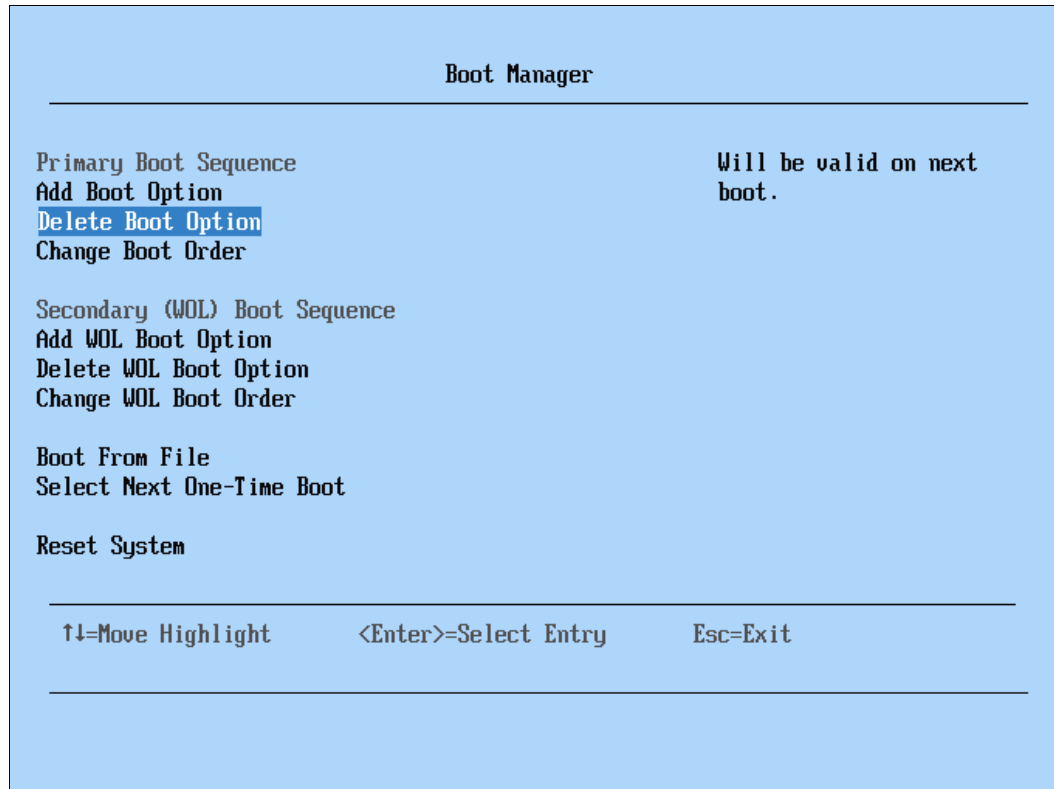

Figure 7-41 UEFI Boot Manager menu
2. Navigate to the Boot Manager menu by selecting **Boot Manager** from the System Configuration and Boot Management menu. The Boot Manager panel displays, as shown in Figure 7-41 on page 344.